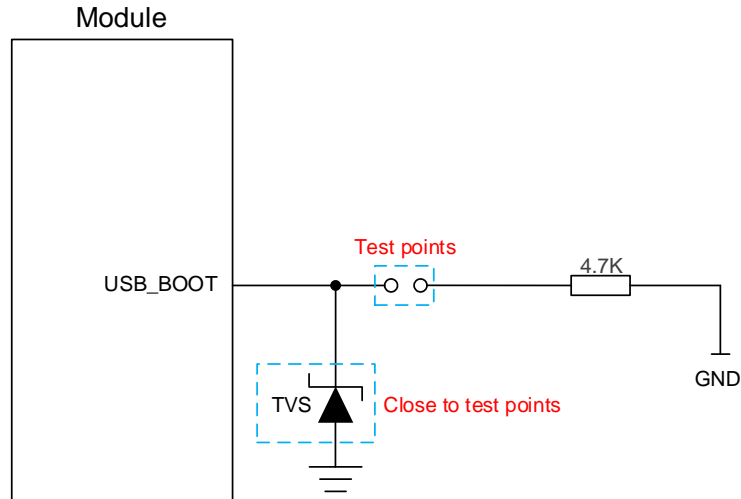

Figure 17: Reference Design of USB_BOOT Interface
2. When using MCU to put the module to emergency download mode, follow the above timing. If you need to manually force the module to enter emergency download mode, connect the test points as shown in **Figure 17**.